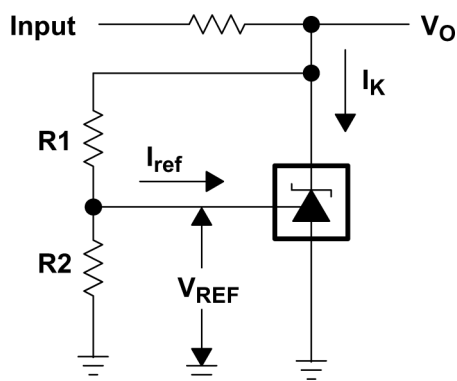

图 6-2. Test Circuit for $v_{KA} > V_{REF}$, $V_O = V_{KA} = V_{REF} \times (1 + R1/R2) + I_{ref} \times R1$
(3) The dynamic impedance is defined as $|z_{ka}| = \frac{\Delta V_{KA}}{\Delta I_K}$. When the device is operating with two external resistors (see 图 6-2), the total
- (3) Full temperature ranges are -40°C to 125°C for TLV431Q, -40°C to 85°C for TLV431I, and 0°C to 70°C for TLV431C.
- (4) dynamic impedance is defined as $|Z_{ka}| = \frac{\Delta V_{KA}}{\Delta I_K}$. When the device is operating with two external resistors (see 图 6-2), the total